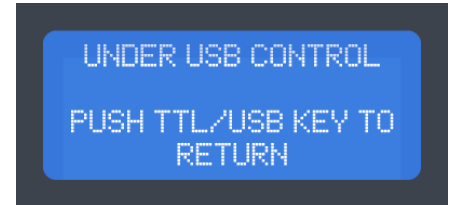

Fig. 19
1. Press the "TTL / USB" (  ) button once. Upon pressing this button, the display will show the Iris Status Screen if you have toggled the TTL external control input, or the screen shown in Fig. 19 if you have toggled the USB external control input.